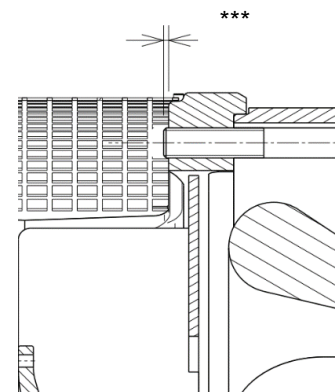

Fig. 14
8. Check the final protrusion *** of the tire rod on the SAE flange side, it must not exceed 2.2 mm, as shown in Fig. 14